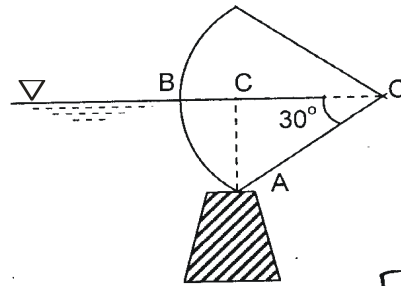

Fig. Q 4(c)
- c. Calculate the resultant water pressure on the tainter gate of radius 8 m and width unity as shown in Fig. Q 4(c). 10